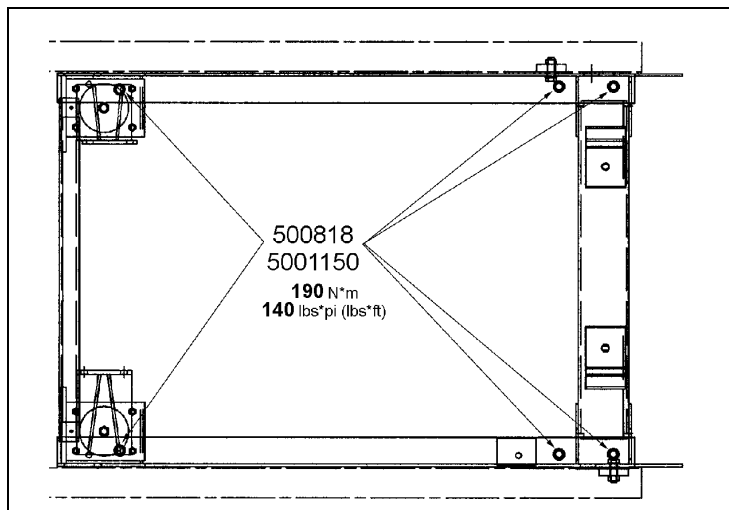
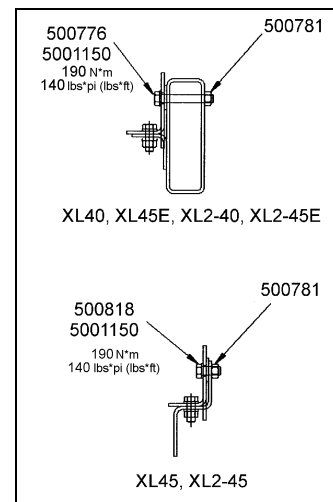

FIGURE 5 : ENGINE CRADLE VERTICAL BOLTS LOCATION
FIGURE 6 : ENGINE CRADLE HORIZONTAL BOLTS
16. Slide in the new engine cradle and adjust using shims if necessary. In order to find the right positioning of the engine cradle, bolt in place using the horizontal bolts in first (see figure 6). Refer to figures 5, 6 & 7 for hardware identification and for the proper tightening torque. Some bolting holes on the engine cradle may not align with those in the engine cradle beds. In that case, drill holes in the beds, not the engine cradle.